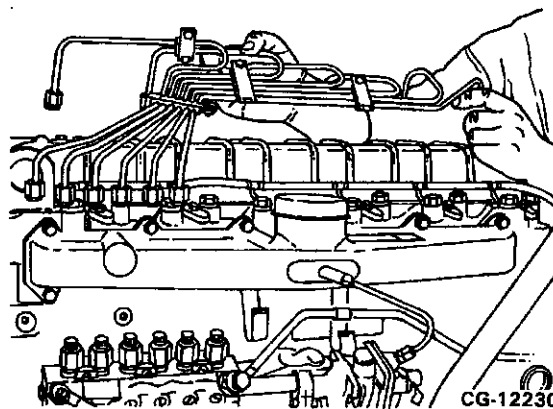

Figure 11.93. Remove Fuel Injection Lines as an Assembly
3. Remove the fuel injection lines as an assembly. Refer to Figure 11.93.